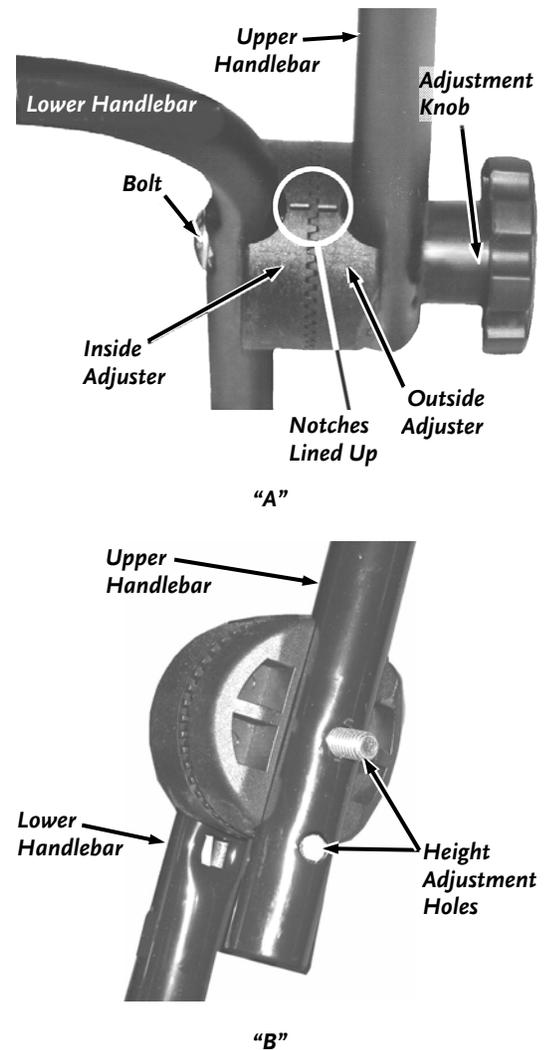

Figure 13
1. Loosen both the Adjustment Knobs and move the Handlebar up or down until the adjustment is the same on both sides. Use the Notches on the Adjusters (**Figure 13 "A"**) to measure how many Teeth you have moved away from the center. When you have found a comfortable height, tighten the Adjustment Knobs securely.
2. For additional height adjustment options, there are two holes in the Upper and Lower Handlebars where the Adjustment Knobs are located (**Figure 13 "B"**). Most people start with the Handlebars set in the Lower holes of both the Upper and Lower Handlebar. You can adjust the height up or down by removing the Adjustment Knob Assembly and repositioning the Handlebars to a higher or lower hole. Be sure the Notches in the two Adjusters line up when you reassemble them (**Figure 13 "A"**). You may need to adjust the PTA™ Lever as well. See the next section.